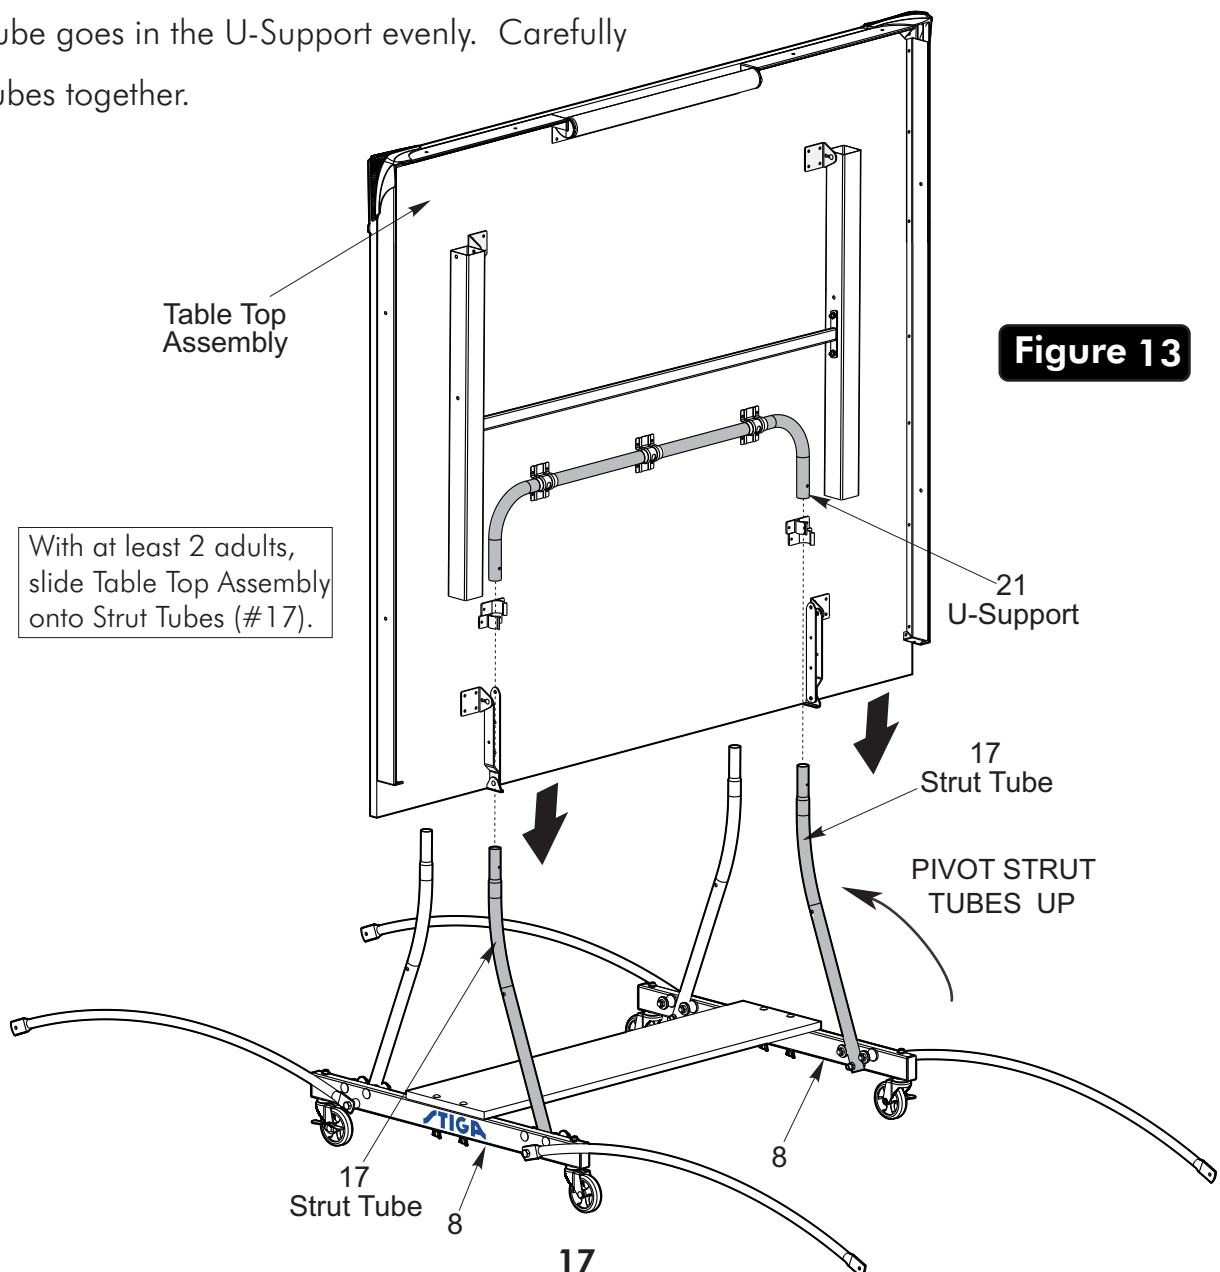

Figure 13
24. Attach Table Top Assembly to Base Assembly as shown in **Figure 13**. Pivot Strut Tubes (#17) up as shown; then, with **at least one adult on each side** of Table Top, lift top and align ends of U-support tube (#21) with tops of Strut Tubes (#17) as shown in **Figure 13**. Lower the table in a controlled manner and as even as possible so the Strut Tube goes in the U-Support evenly. Carefully slide tubes together.